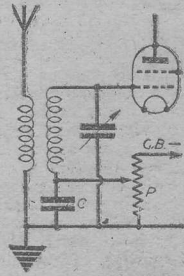

Fig. 6.—Variable-mu H.F. valves offer the most satisfactory form of pre-detector control.
V.M. type, is shown in Fig. 6, where it will be seen that the desired control is obtained by varying a negative bias applied to the grid of the valve via a potentiometer "P." The maximum bias voltage will depend on the type of valve selected, but the value of the potentiometer in the majority of cases can be 50,000 ohms. Note that the earthy end of the coil is anchored to the common negative earth line by means of a small fixed condenser, this component allowing the tuned circuit to be completed as regards H.F. currents.